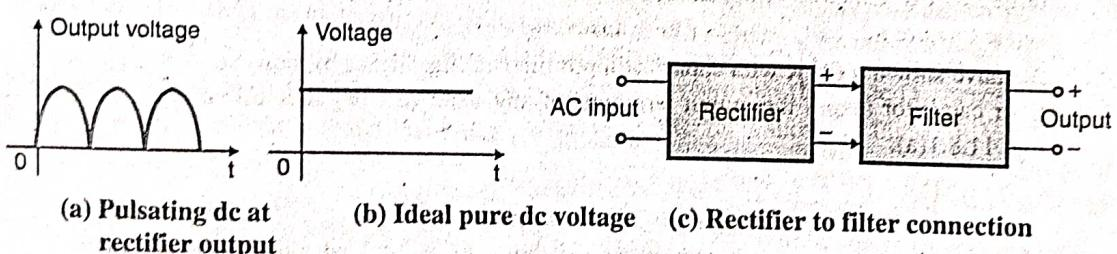

Fig. 11.6.1
- Till now we have seen that from all the rectifiers we get a "pulsating" dc voltage as shown in Fig. 11.6.1(a).
- But this is not what we want. What we want is a pure dc waveform as shown in Fig. 11.6.1(b).
- In order to obtain it we use filters. A filter is connected at the output of the rectifier as shown in Fig. 11.6.1(c).